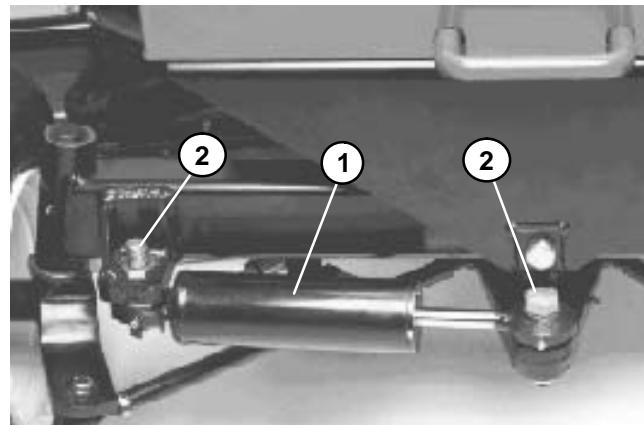

Figure 17
A. (2WD) Remove the lock nut and capscrew securing the rod end of the cylinder to the steering pivot (Fig. 17).
- A. (2WD) Hold the steering cylinder in position and install the lock nut and cap screw securing the barrel end of the cylinder to the rear axle (Fig. 17).